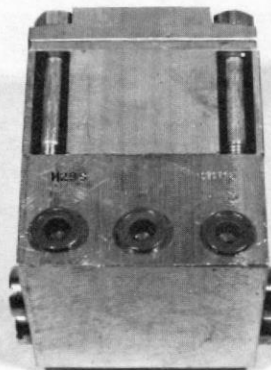

Figure 15. Ram and Pump Model Numbers.
5. Operating helm torque is not a good indication of internal system pressure. Figure 15 indicates two systems with identical mechanical advantage, i.e., for the same rudder torque the helm torque is identical. However, due to the system volumes, the internal operating system pressure is three times higher in one system than in the other.